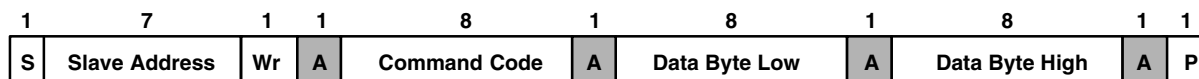
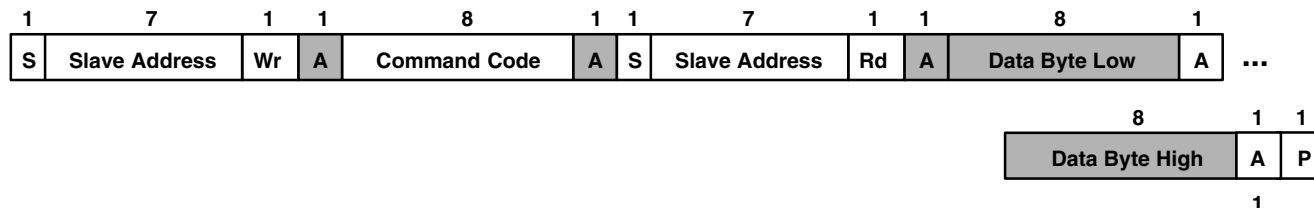

Figure 18. SMBus Write Word Protocol
Figure 19. SMBus Read Word Protocol
1. An I²C block transaction will continue until the Master sends a stop condition. See Figure 18 and Figure 19. Unlike the I²C protocol, the TCS3404/14 SMBus read/write protocol requires a Byte Count. All eight ADC Channel Data Registers (10h through 17h) can be read simultaneously in a single SMBus transaction. This is the only 64-bit data block supported by the TCS3404 SMBus protocol. The TRANSACTION field must be set to 10, and a read condition should be initiated with a COMMAND CODE of CFh. By using a COMMAND CODE of CFh during an SMBus Block Read Protocol, the TCS3404 device will automatically insert the appropriate Byte Count (Byte Count = 8) as illustrated in Figure 18. A write condition should not be used in conjunction with the 0Fh register.